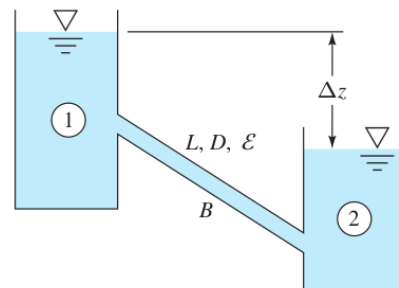

Fig. 6.8
- 6.8 The reservoirs in Fig. 6.8 contain water at 20°C . If the pipe is smooth with $L = 4500 \text{ m}$ and $d = 4 \text{ cm}$, what will the flow rate in m^3/h be for $\Delta z = 100 \text{ m}$?